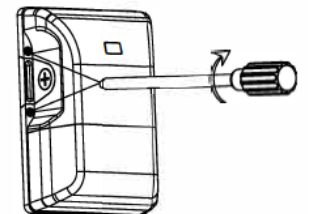

Fig. 6
7. Affix the fixture with 4 screws (fig. 6)